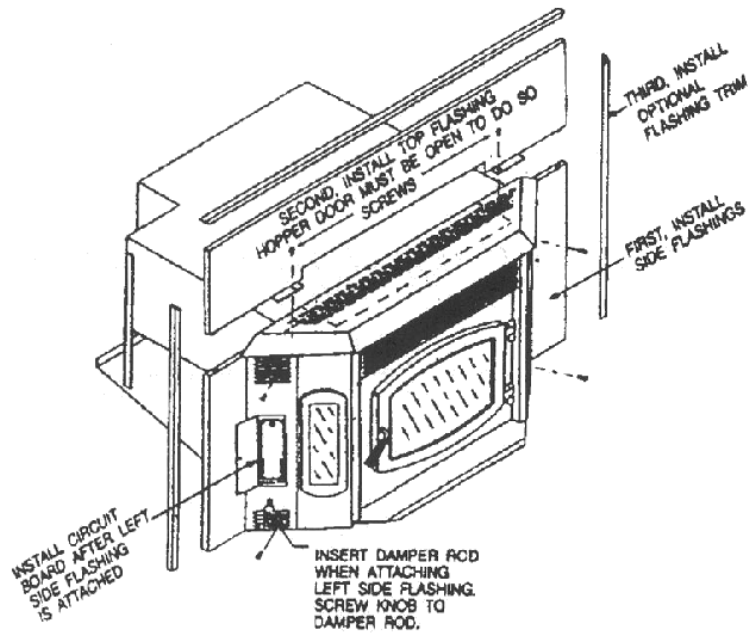

FIGURE 14
Follow the instructions packaged with the P24 Flashing set part C-P24-MEDFL-C or C-P24-LGFL-C. (Refer to Figure 14)
4. Attach flashing (refer to Figure 14), route power cord out the side nearest a 120V receptacle. Slide in insert.
6. Attach flashing (refer to Figure 14), route power cord out the side nearest a 120V receptacle. Slide in insert.